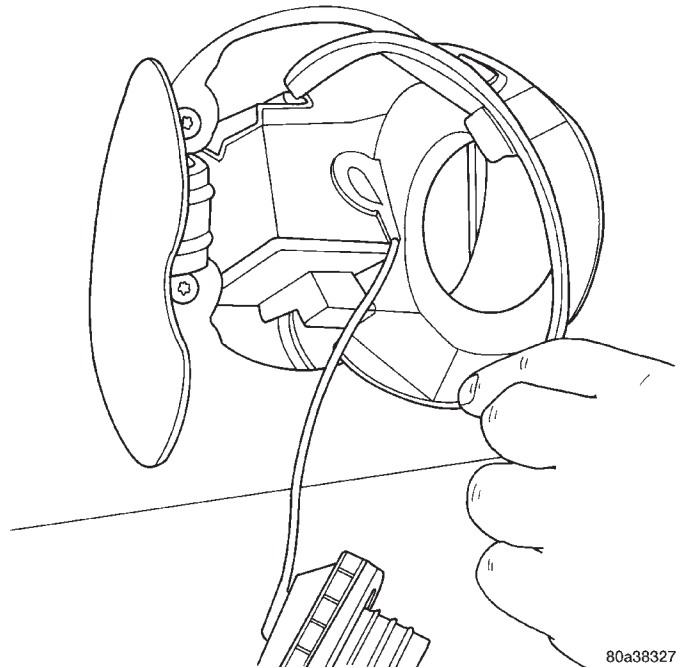
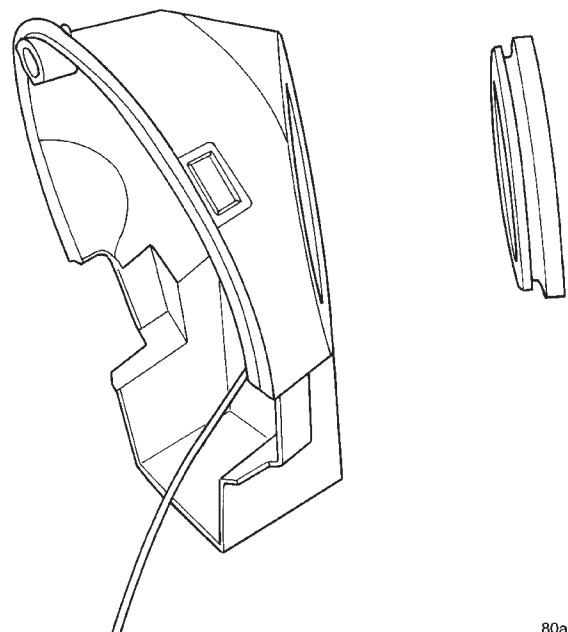

Fig. 43 Body Housing
Fig. 44 Rubber Grommet
- (1) Install rubber grommet in body housing (Fig. 43). Make sure chamfer is in the proper location (Fig. 44).